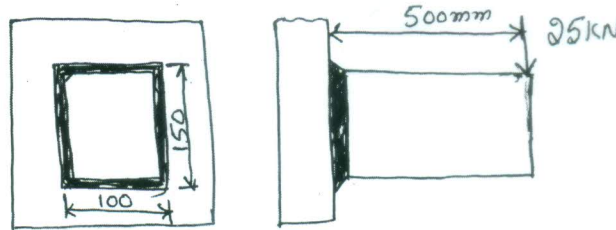

Fig.Q7(b)
- 6 a. A rectangular sunk key 14 mm wide \times 10 mm thick \times 75 mm long is required to transmit 1200 Nm torque from a 50 mm diameter solid shaft. Determine whether the length is sufficient or not if the permissible shear stress and crushing stress are limited to 56 MPa and 168 MPa respectively. (06 Marks)
- b. Determine the size of weld required for the joint shown in Fig.Q7(b), if the allowable shear stress in the weld is limited to 80 N/mm².